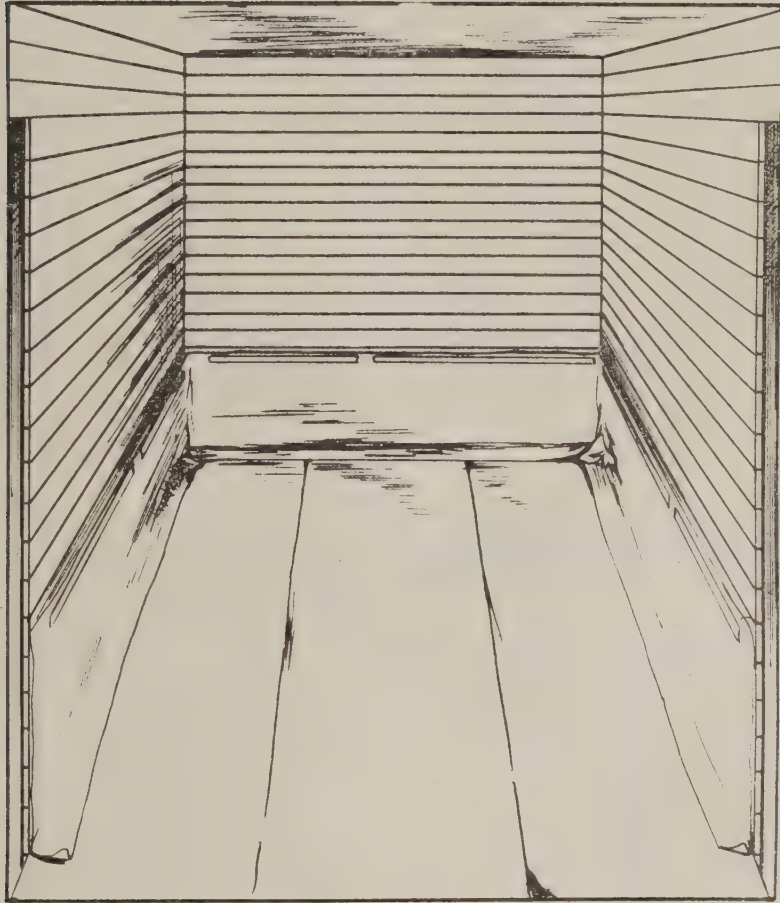

FIG. 15.—Paper the floor and the side and end walls of produce cars up 24 inches.
2. Paper the car floor and walls to a height of 24 inches. Lap the seams not less than 4 inches. The paper on the walls should be held in place with lath and should be carefully folded over all corners and lines where the floor and walls join (fig. 15).
2. Paper over the floor and side walls, but not over the end walls, to a height of not less than 24 inches with heavy paper (fig. 15), except when prevented by permanent false floors which are hinged or fastened to the car. Paper on the side walls should be held in place with lath. The sheets should lap not less than 4 inches and be folded carefully over all corners and lines where the floor and side walls meet. In no case should any of the bunker bulkhead openings be papered over or otherwise blocked, except where false end walls are used as provided for under "Produce Cars, etc.", or "Cars Shipped Without Heaters."